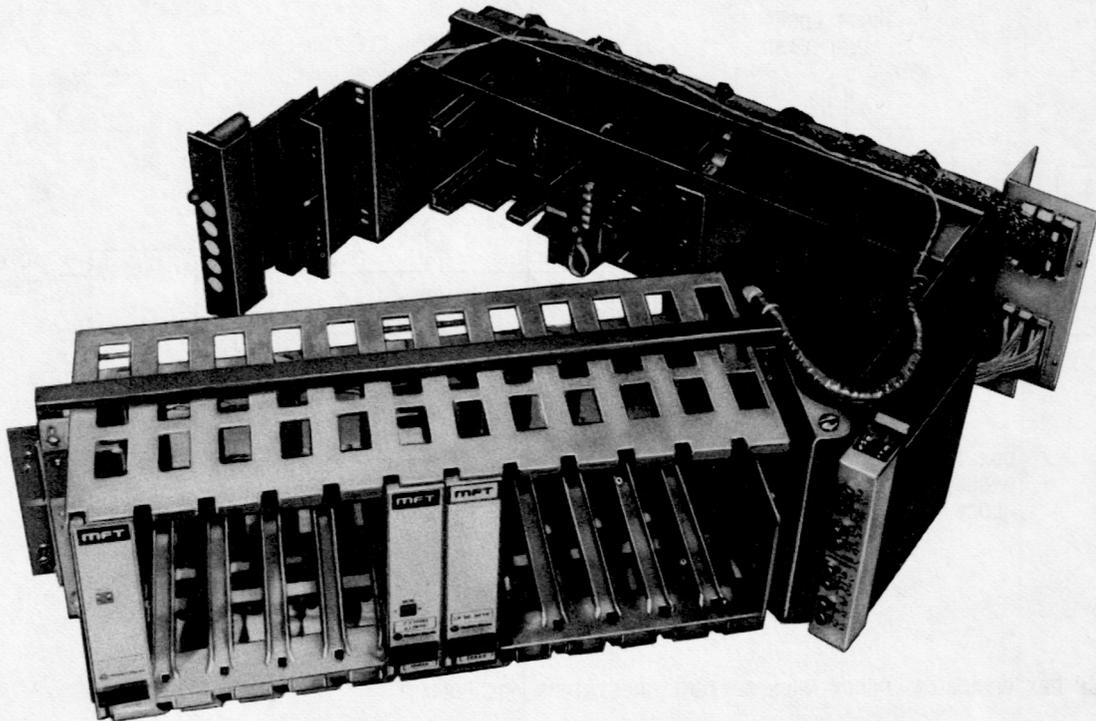

Fig. 21—Double Depth Shelf Frame With Front Double Module Shelf and Rear Network Plug-in Shelf
**4.46** An illustration of the double-depth shelf assembly (J99380D) is shown in Fig. 21.